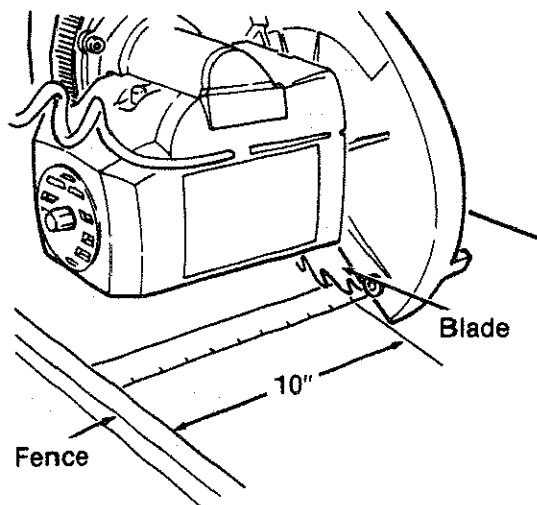

Fig. 133 - Out-Rip Reference
7. Move the *motor* until the *blade* is 10 inches in front of the *fence*. Use a framing square, ruler or tape measure to measure this distance. (Figure 133)